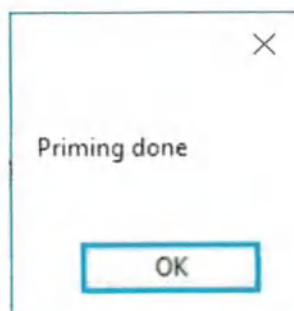

Figure 61
9.5.7.6 When the message shown below appears after the syringe pump is running, click the OK button and close the window [Figure 61].